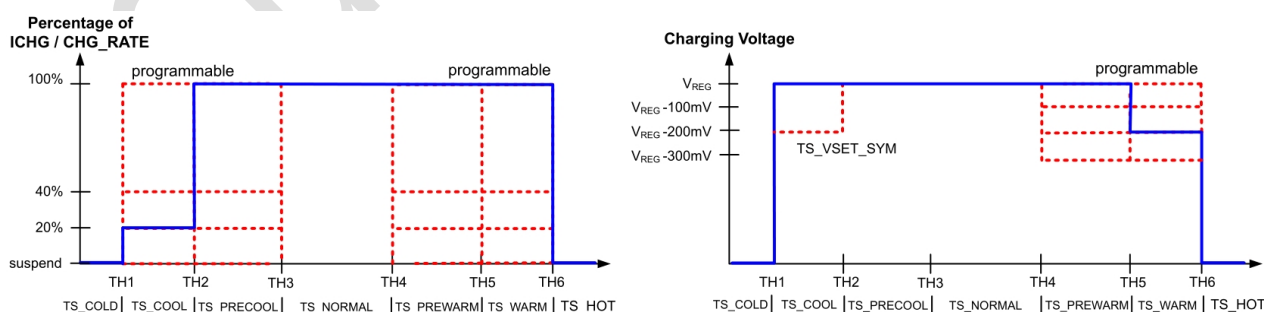

Figure 7 - 4. TS Charging Value
To improve the safety of charging Li-ion batteries, JEITA guideline was released on April 20, 2007. The guideline emphasized the importance of avoiding a high charge current and high charge voltage at certain low and high temperature ranges. As battery technology continues to evolve, battery manufacturers have released temperature safety specifications that extend beyond the JEITA standard. The CX25601N features a highly flexible temperature-based charging profile to meet these advanced specifications while remaining backwards compatible with the original JEITA standard. Figure 7- 4 shows the programmability for charger behavior under different battery temperature (TS) operating regions.